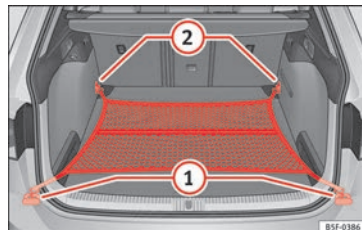

Fig. 181 In the luggage compartment: net bag hooked up at floor level (LEON ST model).
- As applicable, lift the front fastening rings »» **Fig. 181** ②.
- Secure the net hooks to the fastening rings ② »» ⚠. The bag zip should be facing upwards.
- Secure the net hooks to the fastening rings ①.